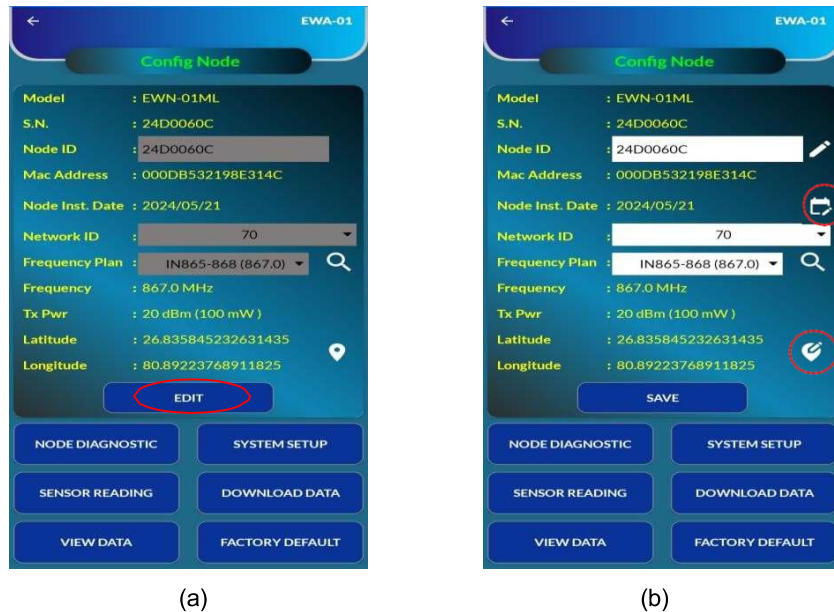
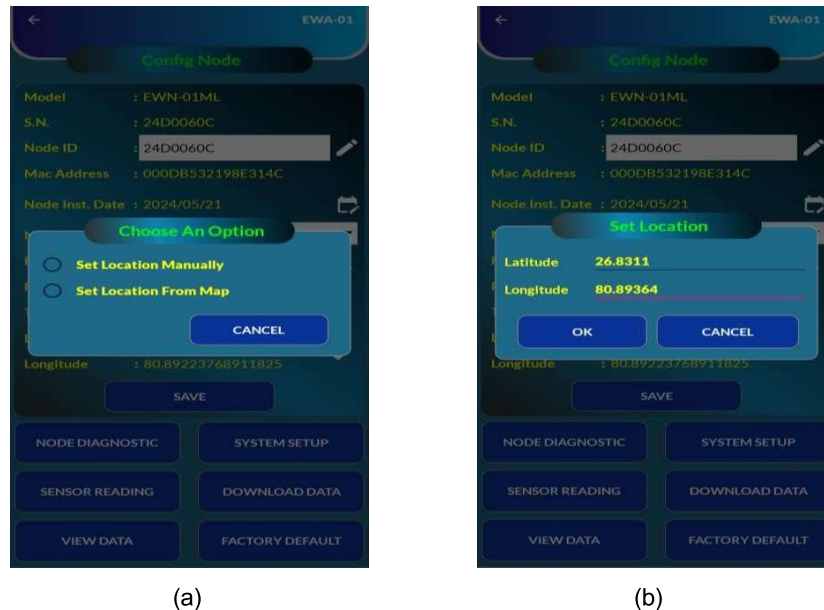
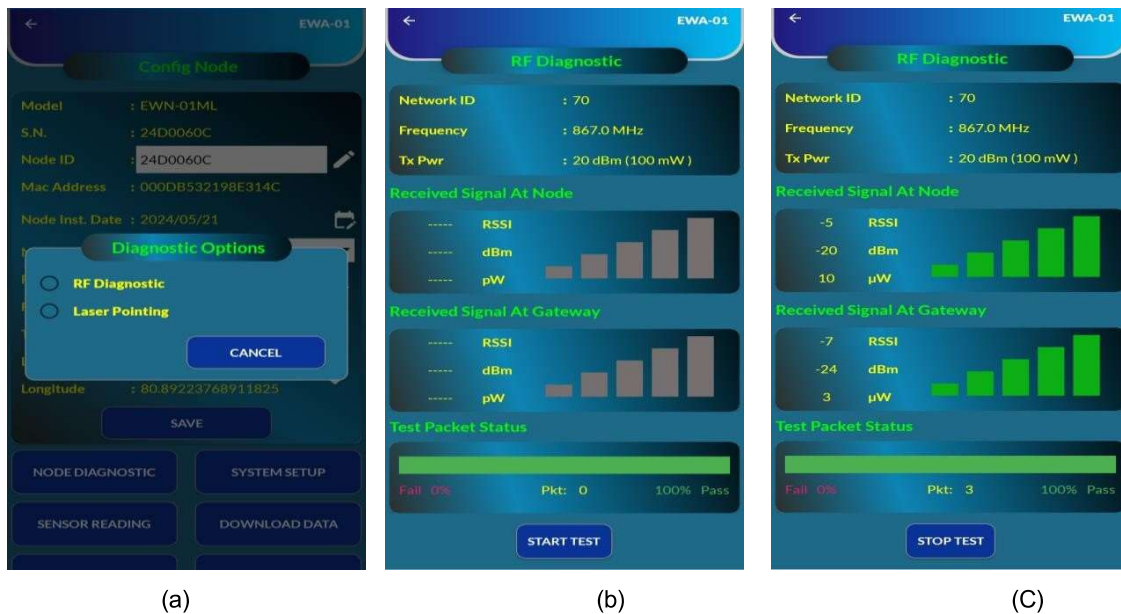
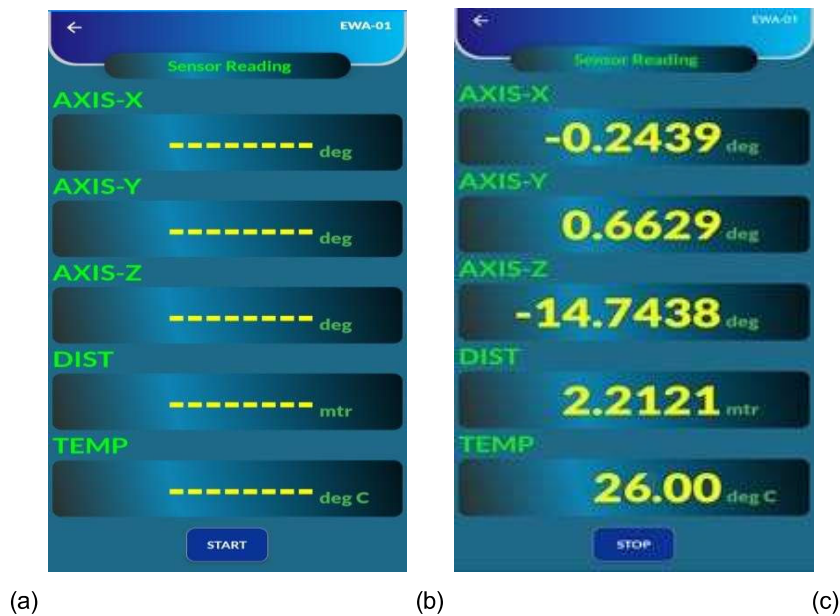

Figure 6-7 Config node
Figure 6-8 Location Coordinates
Figure 6-9 RF diagnostic
Figure 6-12 Sensor reading
- Click on the “CONFIG NODE” tab from Home screen, a window as shown in the figure 6-7 (a) will appear. Click on ‘Edit’ button to input the information as per the requirement.
- Click on the Calendar Icon as shown in figure 6-7 (b) to enter the “Node Inst. date”.
- For setting Latitude and Longitude of respective installation location, click on the location icon as shown in figure 6-7 (b). A prompt window will appear as shown in figure 6-8 (a)
- If user knows the installation location coordinates, select the button “Set location manually” and enter the Latitude and Longitude information as shown in figure 6-8 (b). Click on “OK” to set the coordinates manually.
- Click "NODE DIAGNOSTIC" tab from "Config Node" screen (figure 6-7 (a)). A window as shown in figure 6-14 will appear.
- Click "NODE DIAGNOSTIC" tab from "Config Node" screen (figure 6-7 (a)). A window as shown in figure 6-9 (a) will appear.
- Tap the "SYSTEM SETUP" button from "Config Node" screen (figure 6-7 (a)). A new window will appear as shown in figure 6-11.
- Tap the “SENSOR READING” tab from “Config Node” screen (figure 6-7 (a)) to see the live readings of tilt and temperature. Screens as shown in figures 6-12 (a) & (b) will appear.
- Press "Download Data" button from "Config Node" screen (figure 6-7 (a)). A window as shown in figure 6-14 will appear. Two options are provided to download the data: